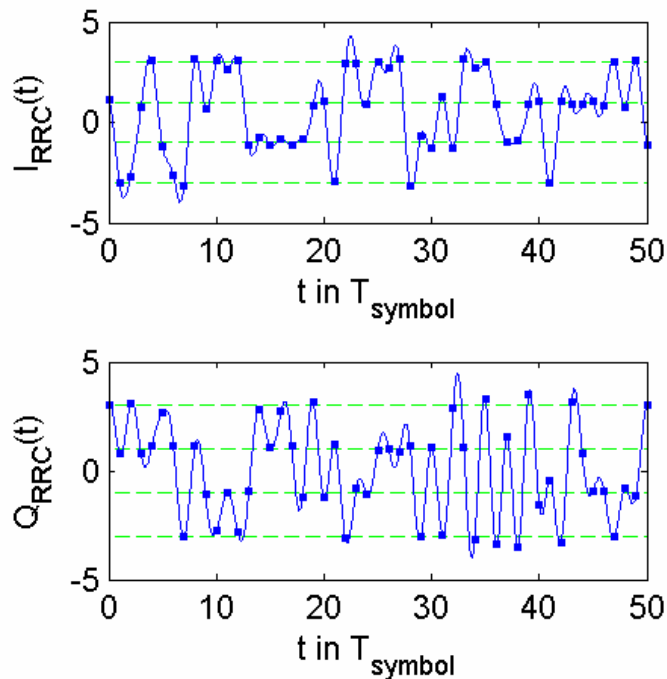

Fig. 2-47 Root raised cosine filtered dirac signals  $I_{RRC}(t)$  and  $Q_{RRC}(t)$
In a cable TV receiver, a filter of the same shape is used as RX filter. The combination of two root raised cosine filters, one in the transmitter (TX) and another one in the receiver (RX), has a very strong property: There will be no inter-symbol interference at the RX filter's output. Due to this property it is very easy for the receiver to retrieve the transmitted symbols. Please note, that in a real-world scenario the channel (causing echoes / multipath propagation) causes inter-symbol interference. In that case the use of an equalizer is recommendable. Fig. 2-47 shows the signals  $I_{\text{RRC}}(t)$  and  $Q_{\text{RRC}}(t)$  that result from filtering  $I_{\text{dirac}}(t)$  and  $Q_{\text{dirac}}(t)$  with the root raised cosine filter **RRC**.